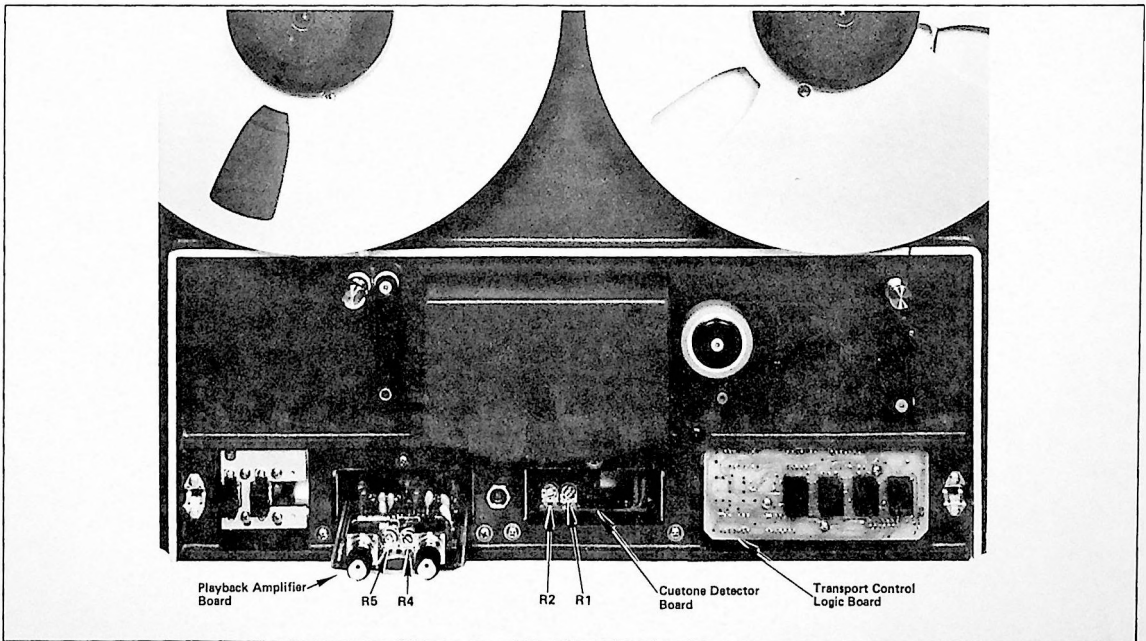

Figure 6-4. 255 Series Reproducer
6.12 When the Playback mode is selected via the front panel START switch, the audio signal from the playback head is fed to the base of Q4 where the signal is amplified by Q4 and Q3. The output signal is fed via level control R2 to the line amplifier. The output signal level can be adjusted with R2, and is accessible from the front control panel. Playback equalization is preset at the factory via trim pot R5. See Figure 6-4 for location of trim pots and level controls. (See schematic diagram Figure 8-3.)